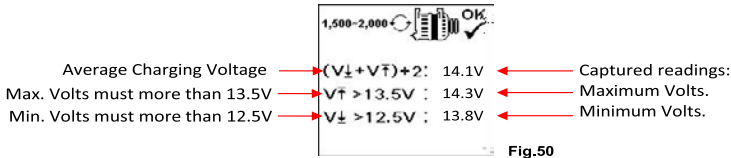
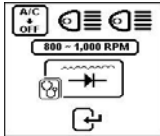

Fig.50
Fig.53
Wait for the countdown from 10s to 0s. As soon as it reaches 0s, the results will automatically display as example shown below (Fig.50).
- Continue from the previous test (either Fig. 50, 51 or 52); the Analyser will automatically proceed to diode ripple test. The display will show as below (Fig.53).